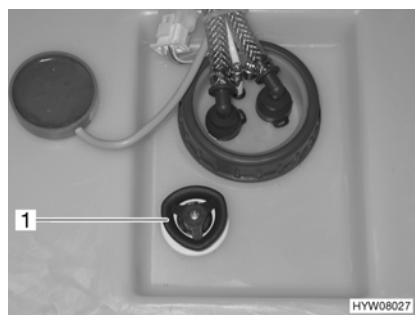

Fig. 192 Water tank with rotary handle
- Turn the rotary handle (Fig. 192,1) on the water tank in a clockwise direction as far as it will go.
- Turn the rotary handle (Fig. 192,1) on the water tank in an anticlockwise direction as far as it will go. Excess water will drain away leaving approx. 20 litres in the tank.